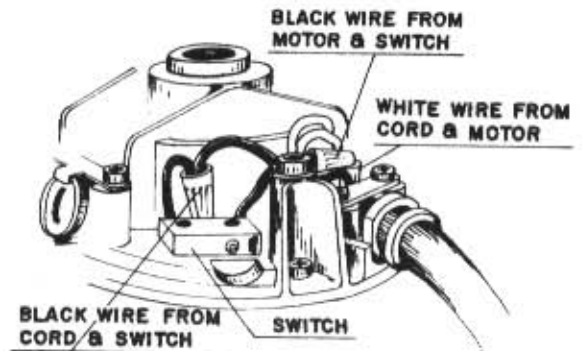

Fig. 4
2. Lift the switch off the two locating pins and unscrew the two wire connectors from the switch wires. See Fig. 4. Note locations of all wiring and how each connection is made to the switch. Connections and wiring position must be identical when installing the new switch.